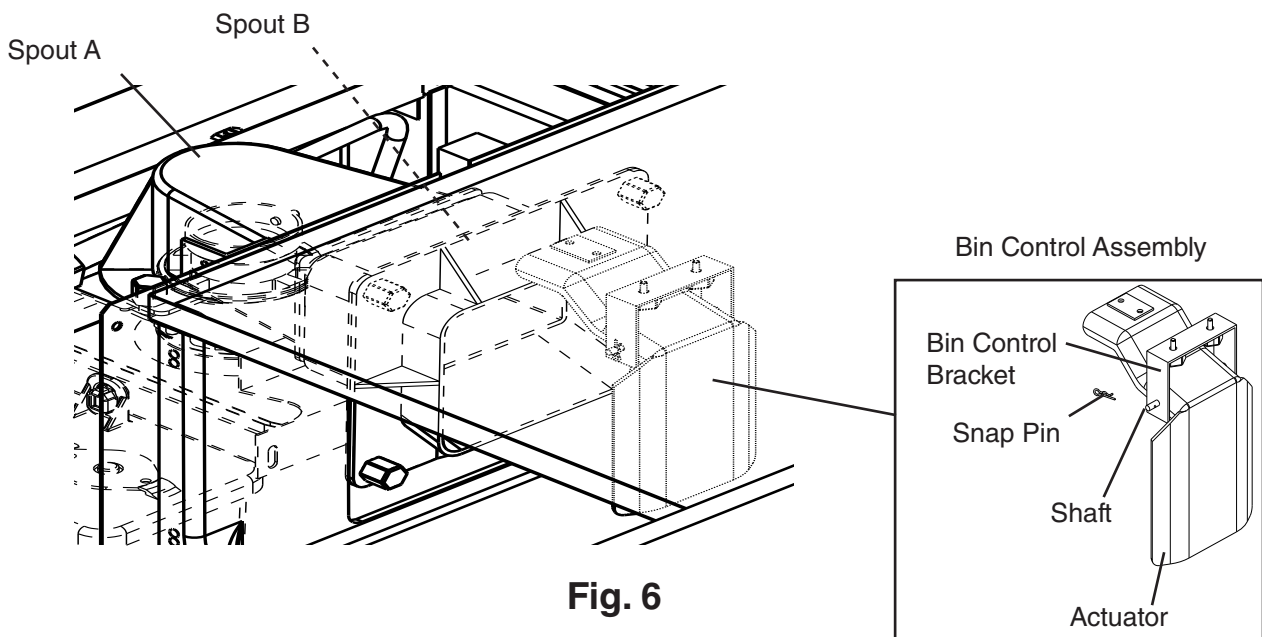

Fig. 6
- 5) Remove the bin control assembly. See Fig. 6.